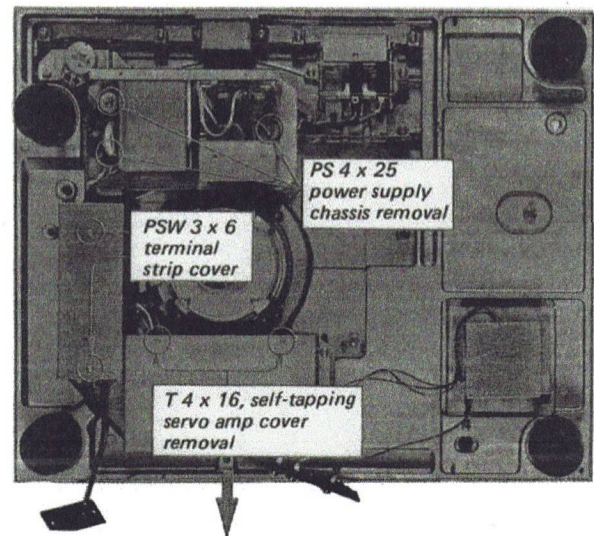

Fig. 2-4. Bottom view
2. Remove the two self-tapping screws (T 4 x 16) shown in Fig. 2-4, and then slide it in the direction shown by the arrow as illustrated. This frees the cover.
2. Remove the three screws (PS 4 x 25) shown in Fig. 2-4. This frees the power supply chassis.
2. Remove the two screws (PSW 3 x 6) securing the terminal strip cover as shown in Fig. 2-4.